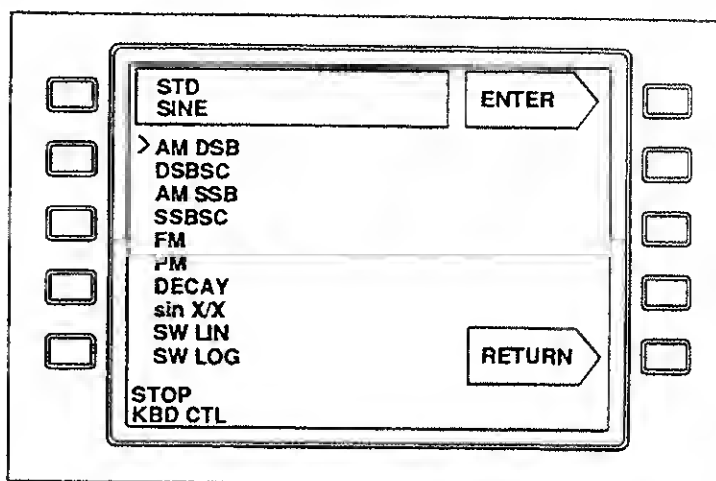

Figure 3-14. MODULATED WAVE Display
- (1) Press WAVE.
- (2) Press MODULATED WAVE. The submenu shown in Figure 3-14 should appear on the screen.
- (3) Using the Rotary Encoder or the Right/Left Move keys, move the cursor to the chosen wave type.
- (4) Press ENTER. The parameter set-up display should appear on the screen.
- (5) Refer to Table 3-2 and set up the parameters as required.
- (6) Press R/S to activate the output.